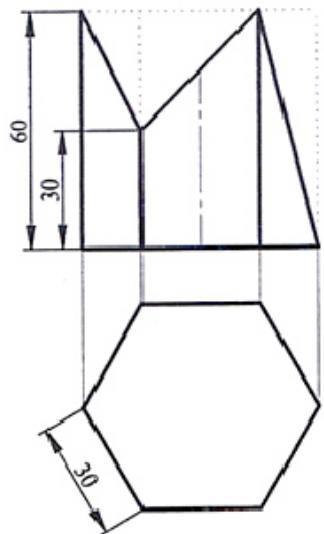

Figure 9.1
- 9.9 A hexagonal prism side of base 30mm and height 60mm is cut as shown in the Figure 9.1 Draw the development of the lateral surface of the prism.